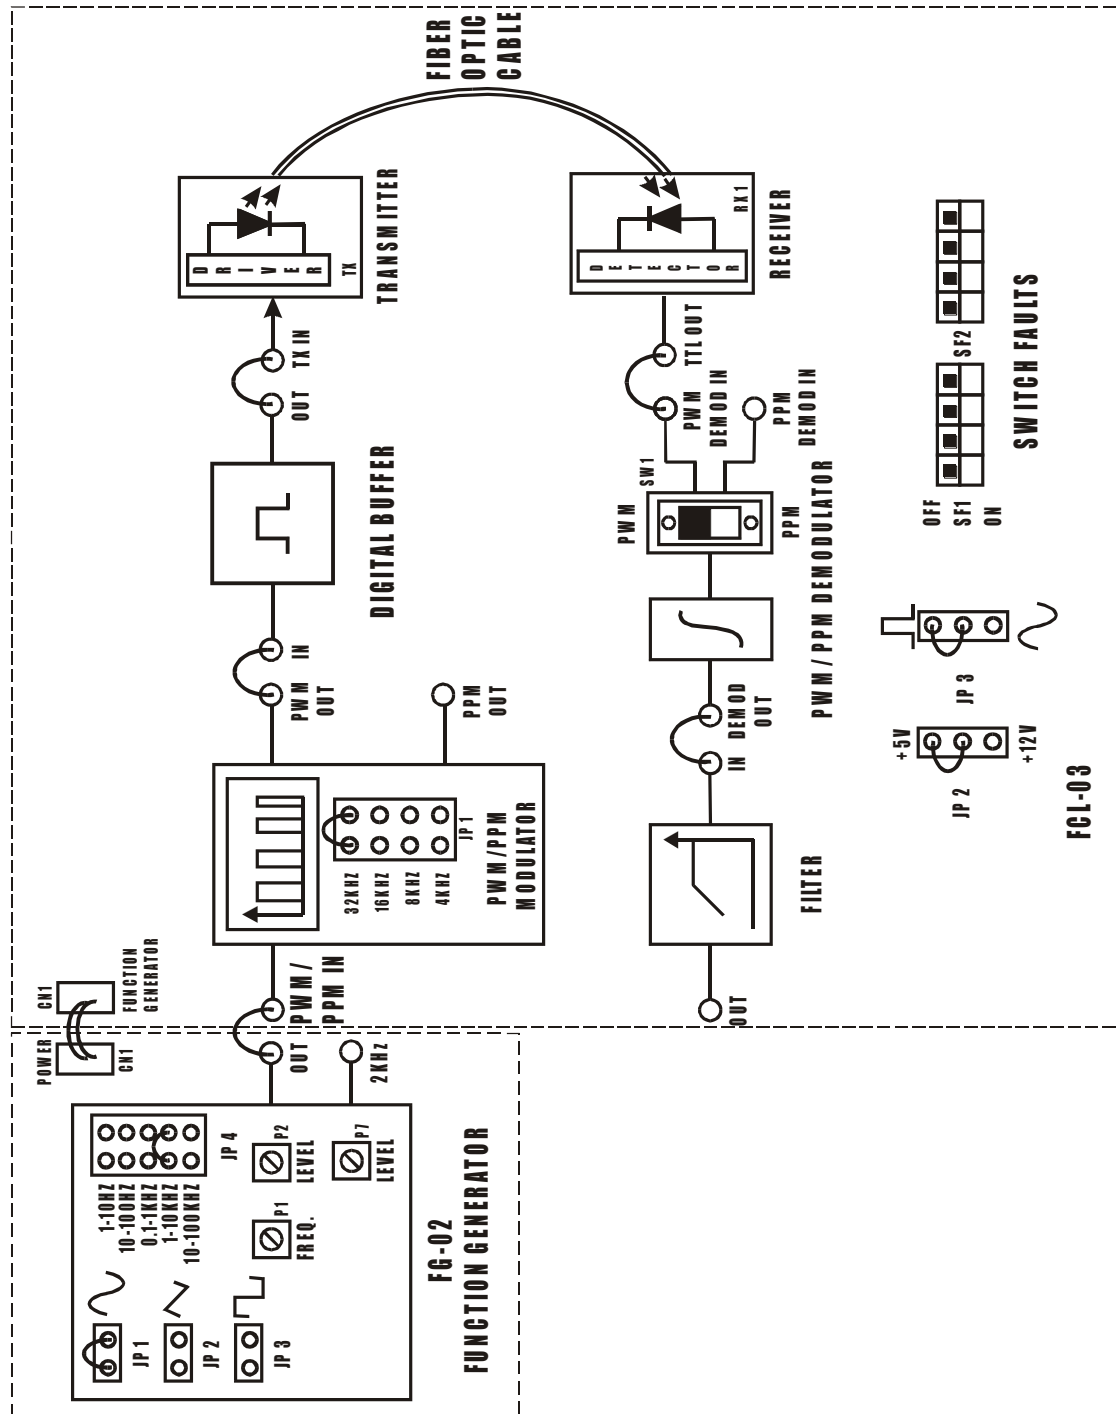

FIG. 3.1 BLOCK DIAGRAM FOR PULSE WIDTH MODULATION AND DEMODULATION
- Make connections as shown in fig.3.1. Connect the power supply cables with proper polarity to FCL-03 Kit. While connecting this, ensure that the power supply is OFF.
- Keep the jumpers **JP1**, **JP2** & **JP3** on FCL-03 as shown in fig.3.1.